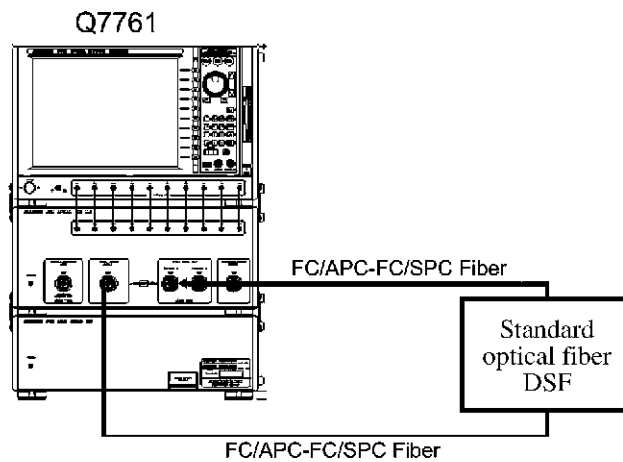

Figure 2-19 Connection for Fiber Length Measurement Repeatability Test
1. Connect equipment as shown in Figure 2-19.